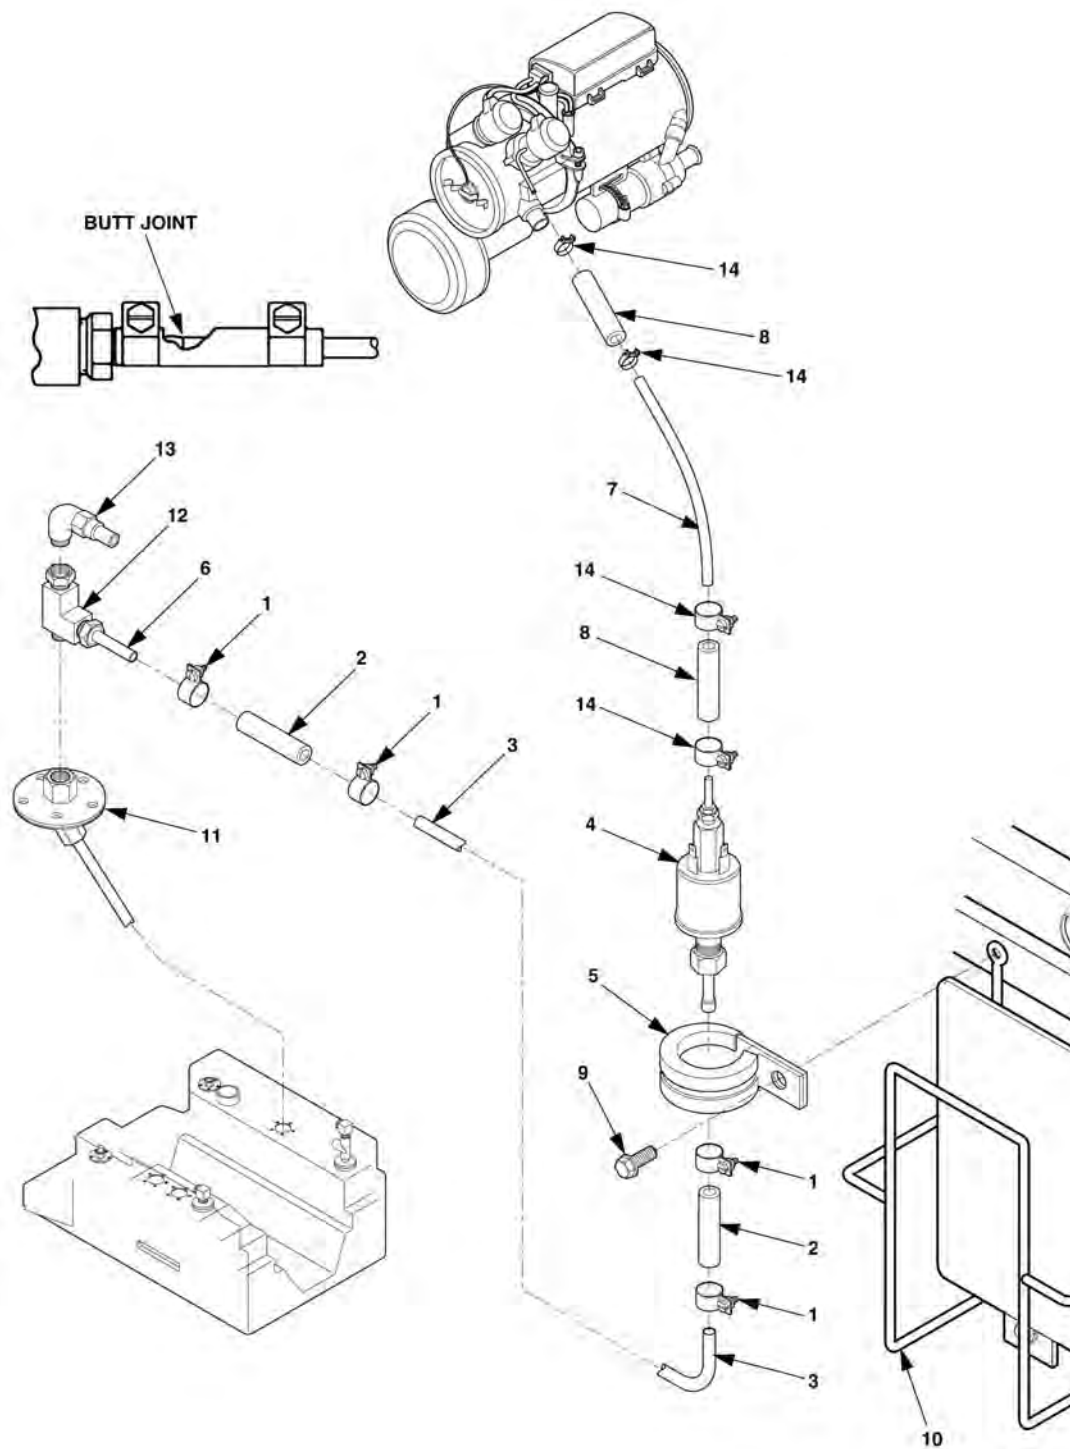

Figure 4-39. Fuel Pump and Lines Removal
8. Remove fuel pump, lines and hardware Figure 4-39, (1 thru 14) and replace fuel supply line (3) back on fuel pick up assembly (11). Be sure to use a suitable container to catch any fuel from the lines. Replace hardware in output box.